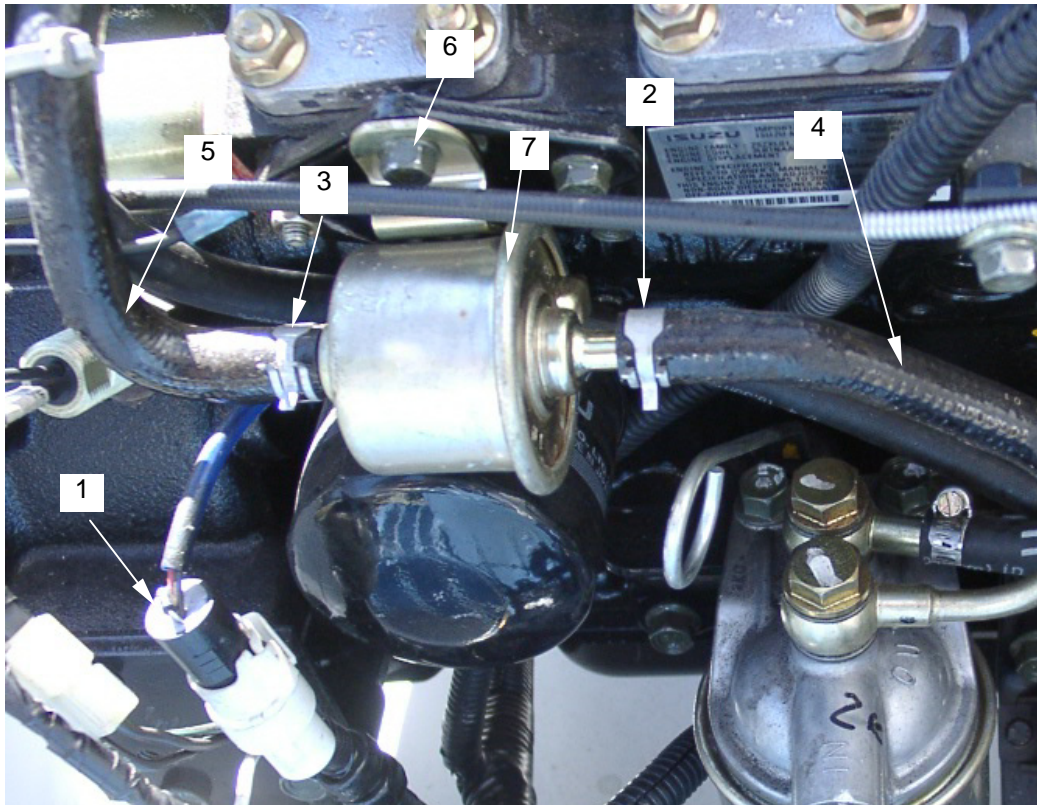

Figure 34. Fuel Pump
- a. Tag and disconnect fuel pump wiring (**figure 34, item 1**).
- b. Loosen and remove inlet (**figure 34, item 2**) and outlet hose clamps (**figure 34, item 3**).
- c. Remove inlet hose (**figure 34, item 4**) and outlet hose (**figure 34, item 5**) from fuel pump.
- d. Loosen and remove fuel pump mounting bolt (**figure 34, item 6**).
- e. Remove fuel pump (**figure 34, item 7**) and discard in an approved container.
- f. Fasten and tighten new fuel pump with mounting bolt (**figure 34, item 6**).
- g. Connect inlet (**figure 34, item 4**) and outlet hoses (**figure 34, item 5**).
- h. Fasten hoses in place with hose clamps (**figure 34, item 2**) (**figure 34, item 3**).
- i. Remove tag and reconnect wiring (**figure 34, item 1**) to fuel pump.